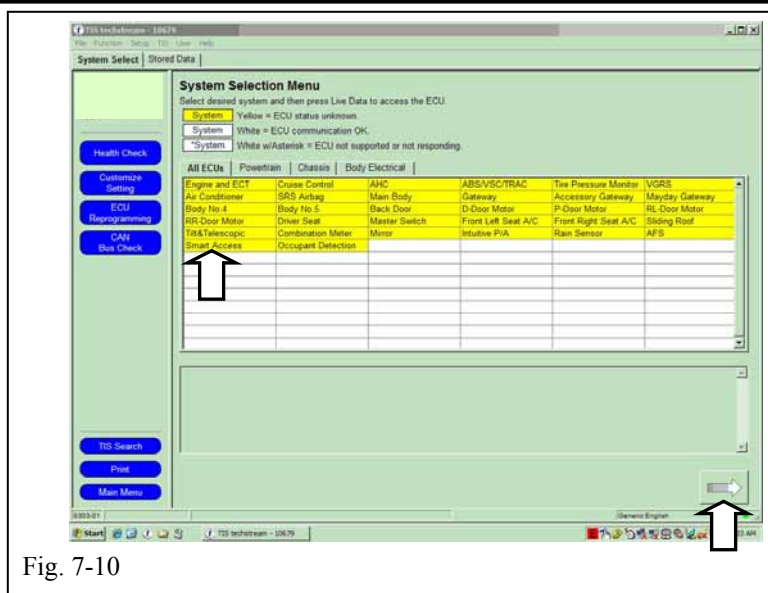

Fig. 7-10
(Fig. 7-10)
- (t) Click . (Fig. 7-10)